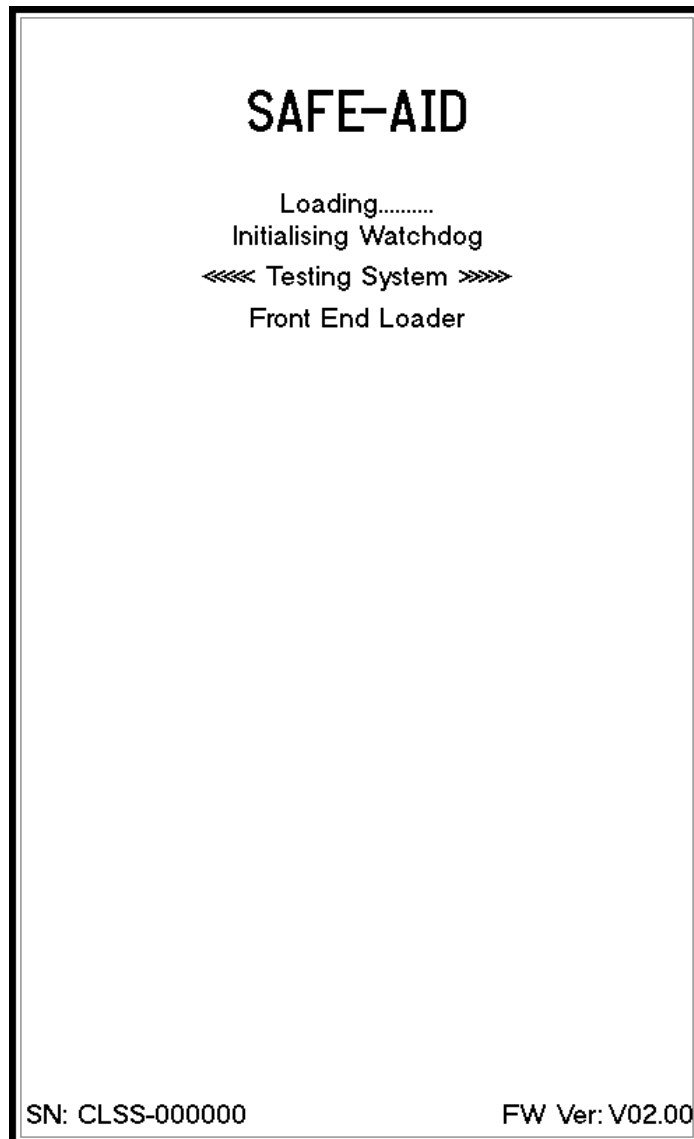

FIGURE 1
2. SYSTEM STARTUP – FIGURE 1
The TS7000 display (LMI) will automatically come on when you switch the front end loader on, the buzzer will sound intermittently and the system will run through a set of internal diagnostics (Figure 1) to make sure all inputs and outputs are working correctly. Once this is done you will automatically go into the running screen